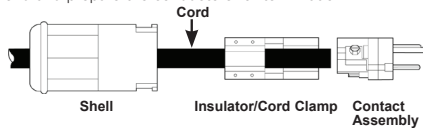

Figure 2
2. Slide shell onto cord. Loosen 4 cord clamp screws and slide insulator onto cord. (See Figure 2.) Move shell & insulator up the cord & away from cord end so you can freely work on the cord end and prepare the conductors for termination.